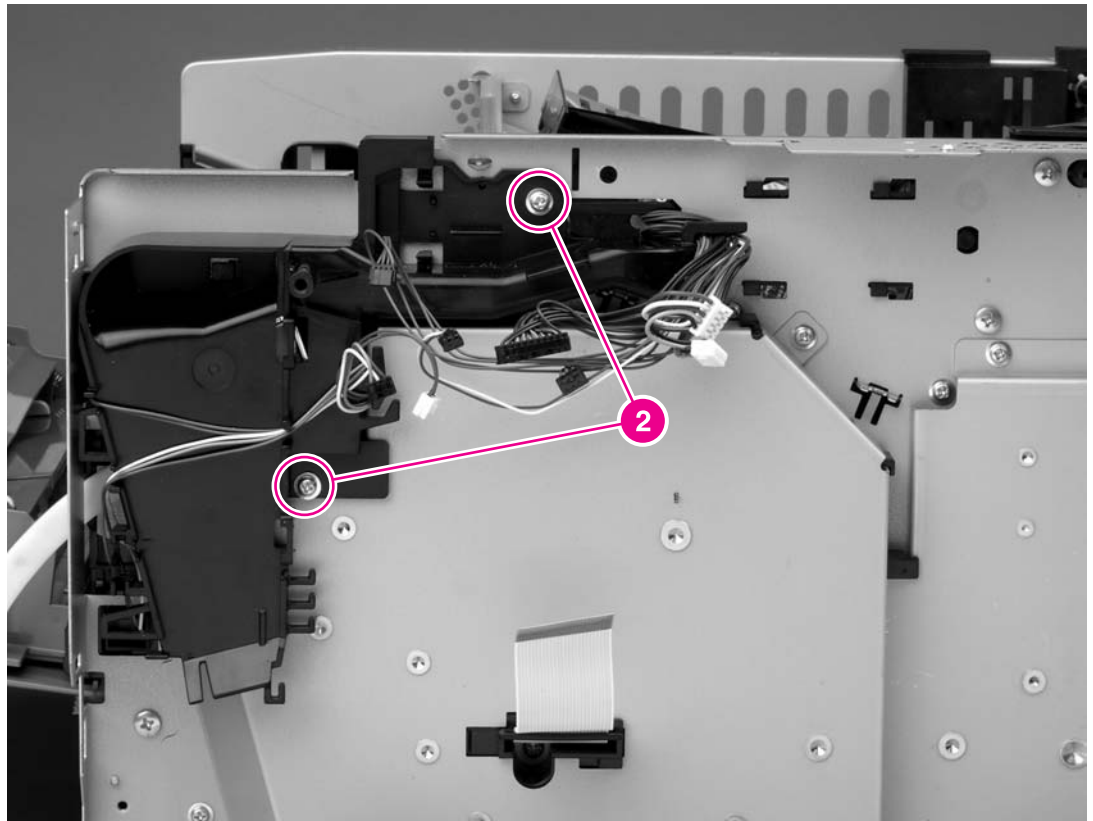

Figure 6-42.
7. Remove the air duct (see Figure 6-42. Removing the gear assembly \(2 of 6\)).